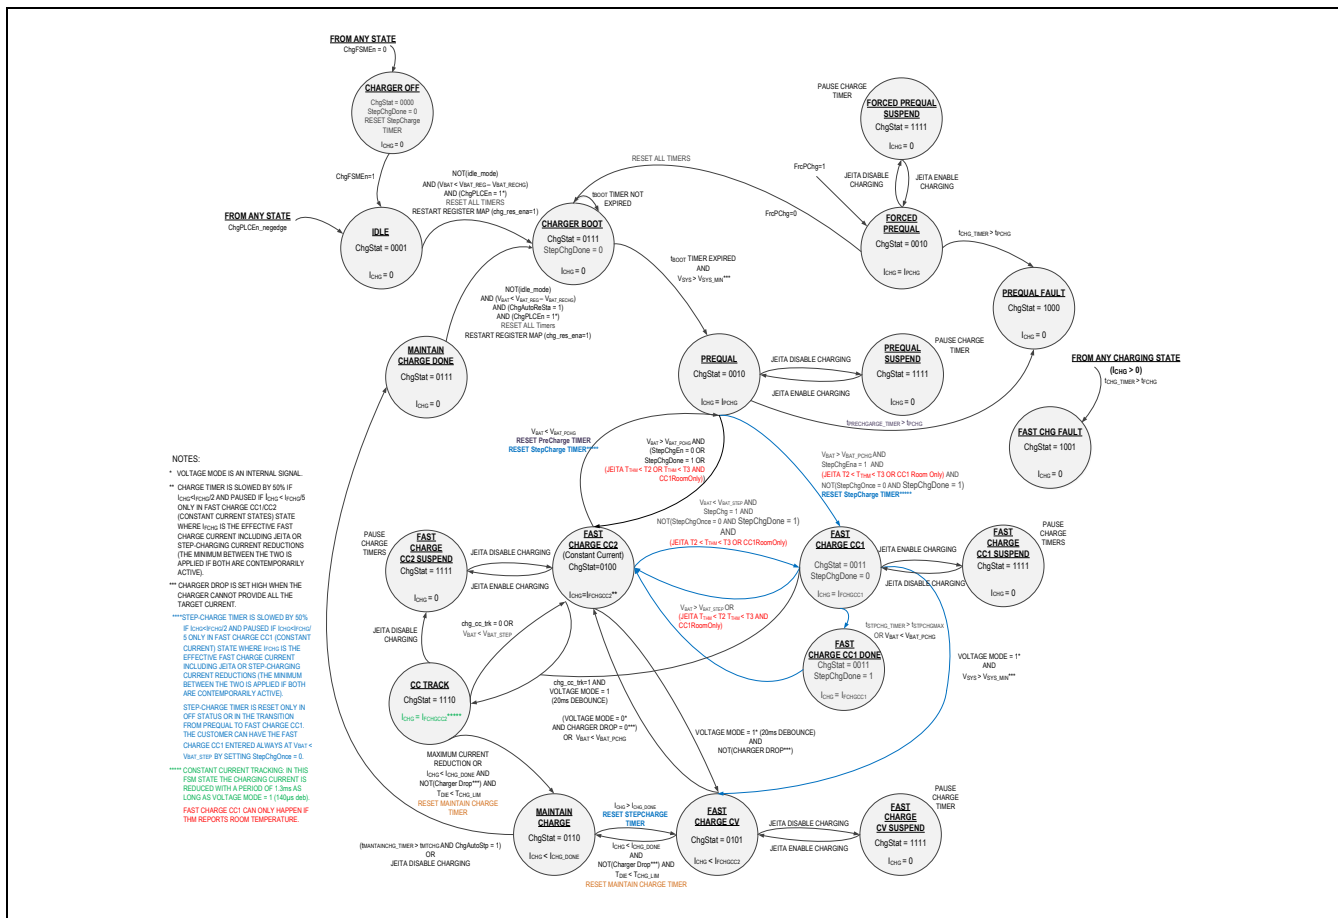

Figure 14. Battery Charger FSM Diagram
There are also independently programmable temperature thresholds, which allow the user to select in which temperature ranges precharge, CC1, CC2 and battery regulation voltage may operate. Different JEITA compliant temperature operation strategy is I2C programmable. Timeout function for precharge, CC1 and full charge cycle is also designed to prevent overcharge of the battery. Detailed charger operation is shown in Figure 14.
As shown in Figure 14, when PLC connection is not established, power is not applied from the MAX20355. The MAX20357 charger is in **Charger Off** state (ChgStat = 0b0000). After MAX20357 detects PLC connection, buck-boost voltage is applied to PLC pin, chn\_con\_sts status is set to 1 and chn\_con\_int interrupt is asserted at the first telemetry PING, signaling PLC connection is established. Charger transitions from **Charger Off** state to **Charger IDLE** state (ChgStat = 0b0001).
As shown in Figure 14, the following events cause the charger to enter **Charger IDLE** state.
As shown in Figure 14, the charger enters the precharge state (`ChgStat = 0b0010`) after charger boot sequence is completed and SYS pin voltage is regulated higher than or equal to minimum system voltage `SysMin`. If battery voltage is lower than `VPChg` or `FrcPChg = 1`, the charger remains in precharge state. In the precharge state, the battery charging current is `IPChg`.
As shown in Figure 14, if CC track is disabled, charger enters **Fast-Charge Constant Voltage (CV)** state when the battery voltage is close to top-off voltage BatReg. In the **CV** state, the charger regulates the battery voltage at BatReg and the charge current decreases from CC2IFChg as the battery voltage increases. Battery regulation voltage can be less than BatReg due to temperature. See the JEITA Compliance section for JEITA reduction of battery regulation voltage.
If the charger drop-out voltage drops down to the programmable threshold PLC\_DROP, charger current is actively reduced to maintain the charger input and output voltage difference  $V_{\text{PLC}} - V_{\text{BAT}}$  at PLC\_DROP. As shown in Figure 14, when charger current is being actively reduced, some charger state transitions are unavailable.